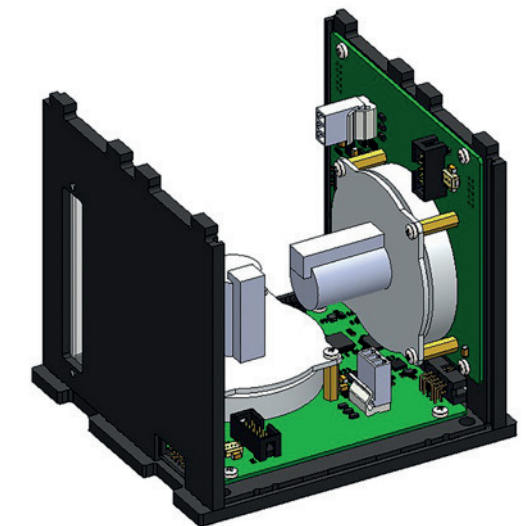

Fig. 59: Mounting the side wall on the base plate
5) Mount the side wall on the base plate. To do that, align side wall protrusions with holes in the base plate and latch them (Fig. 59):